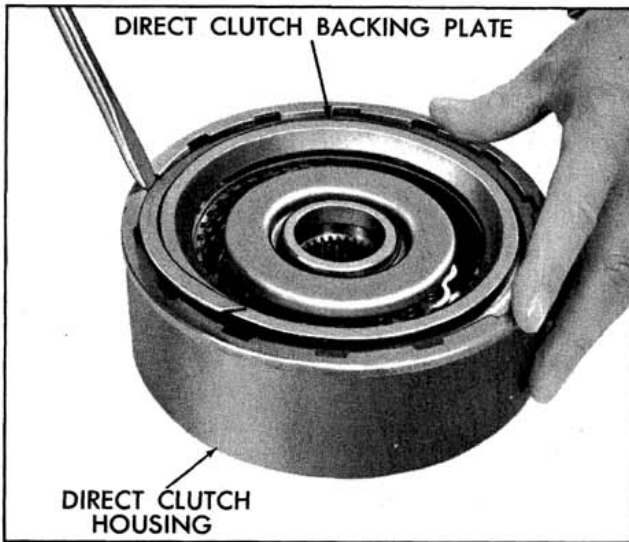

Fig. 6-168 Installing Snap Ring
9. Install the clutch backing plate and the backing plate retaining ring. (Fig. 6-168)